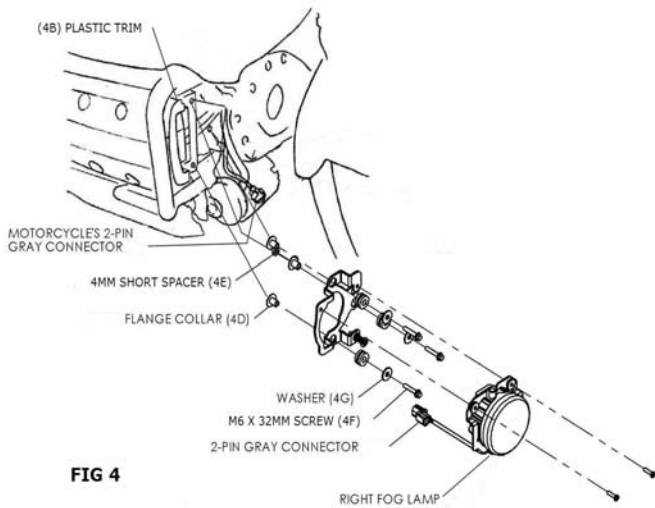

FIG 4
8. USING THE 8MM WRENCH REMOVE THE TWO BOLTS HOLDING THE PLASTIC TRIM PIECE (4B) ON. THESE BOLTS WILL NOT BE REUSED. INSTALL THE RIGHT FOG LAMP BY USING THE FLANGE COLLARS (4D), 4MM LONG SPACER (4E), 32MM LONG FLANGE BOLTS (4F) AND WASHERS (4G). NOTE THAT ON THIS SIDE ONLY THE BOLT ON THE INSIDE GETS A SPACER. TIGHTEN BOLTS EVENLY. PLUG THE 2-PIN CONNECTOR INTO THE MOTORCYCLES 2-PIN GRAY CONNECTOR. REMOVE THE PLUG COVER FIRST. THE MOTORCYCLE CONNECTOR MAY BE TAPED TO THE BIKE. THIS TAPE WILL HAVE TO BE REMOVED TO LENGTHEN WIRES. SEE TO FIGURE 4.